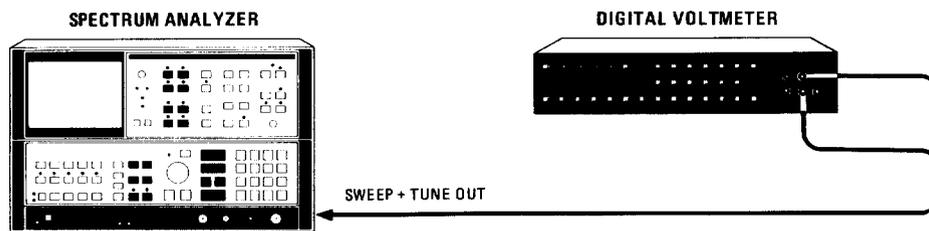

FIGURE 34. SWEEP + TUNE OUT ACCURACY TEST SETUP
2. Connect digital voltmeter to the SWEEP + TUNE OUT auxiliary output on the rear panel of the analyzer as indicated in Figure 34.